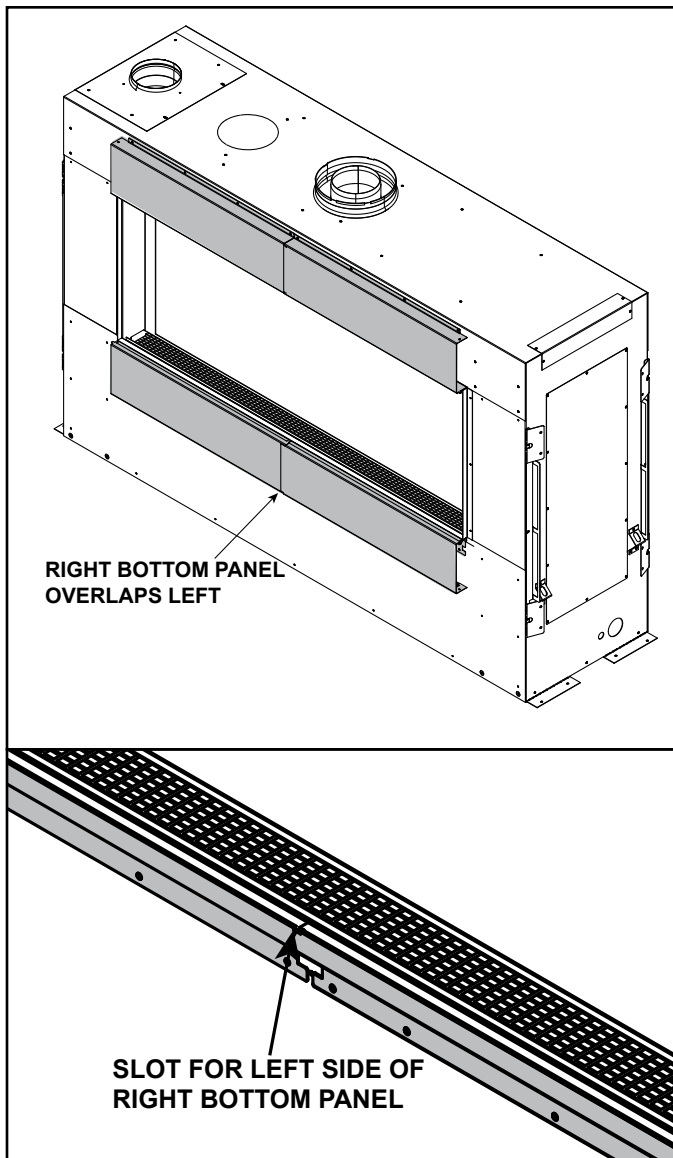

Figure 12 Center Slot for Right Bottom Panel
5. The bottom right panel overlaps the left panel. Interlock the top right outside tab and then interlock the center tab of the right bottom panel. See Figure 12.